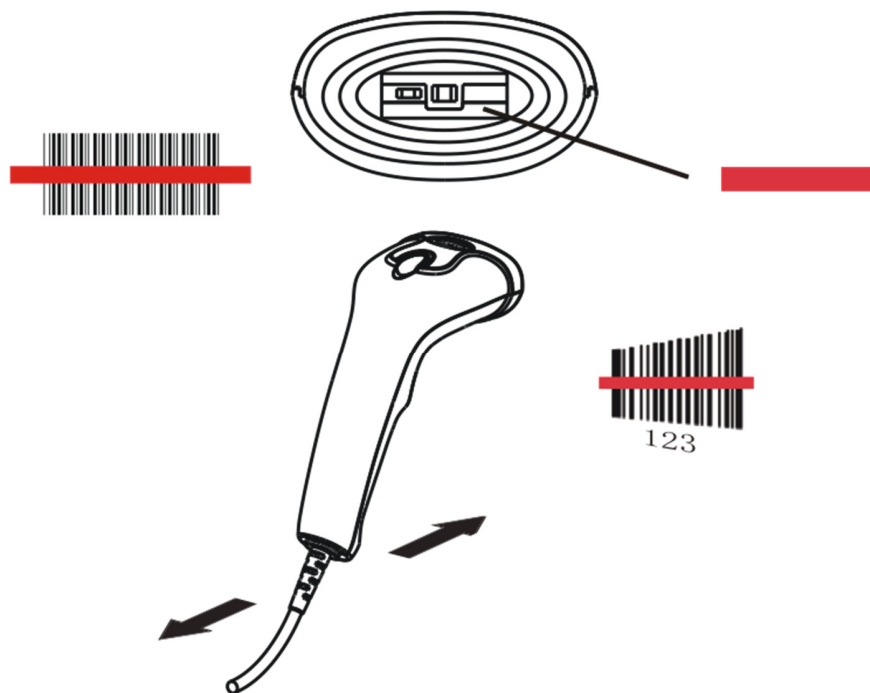

Fig. 1-6
2. Aim the red beam across the center of barcode, as shown in Fig.1-6.